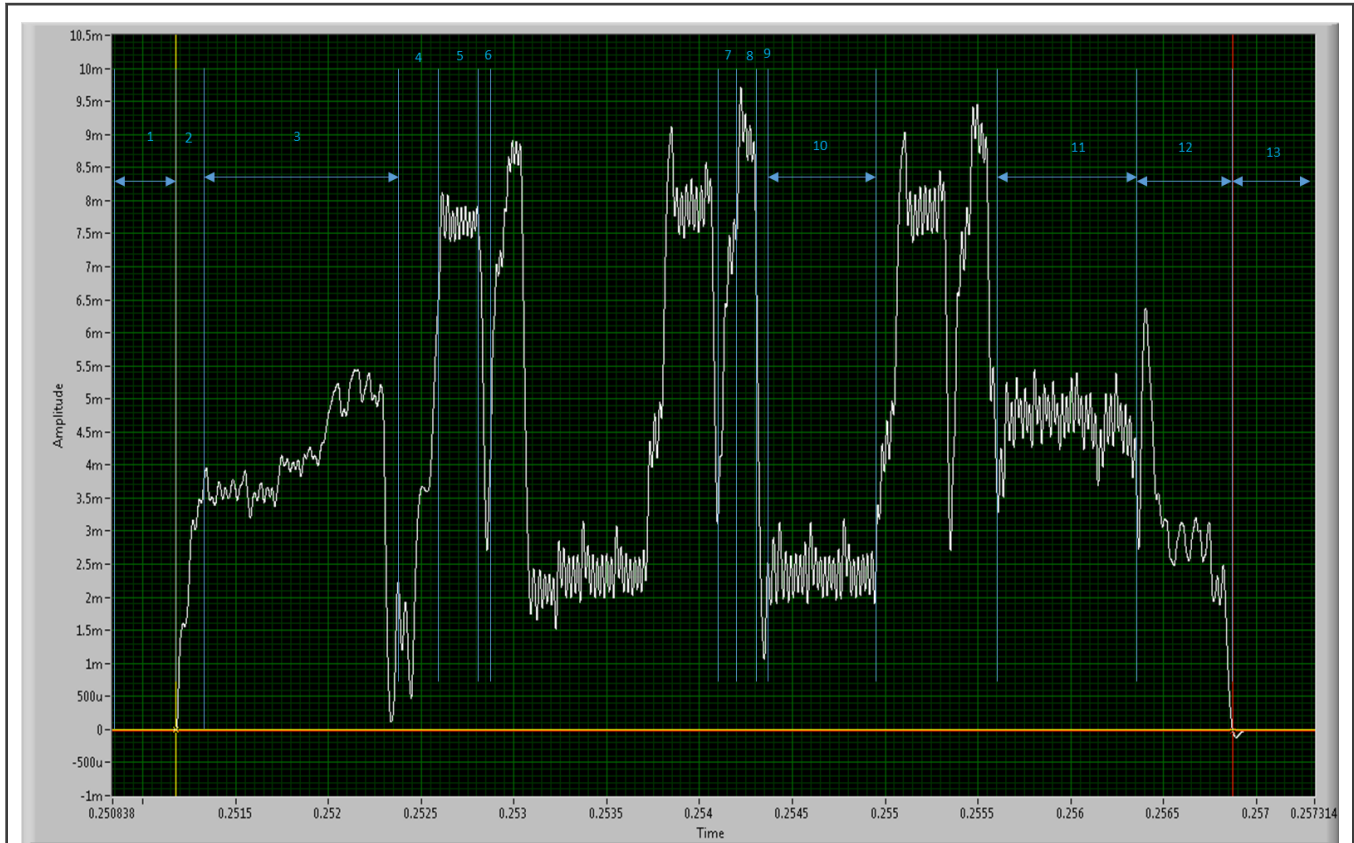

Figure 1. Typical operation cycle of a wireless low-power end device
- In Figure 1, it is depicted how the current consumption varies over time for each operation cycle of the device.
- All the timings from Figure 1 are explained in Table 1.